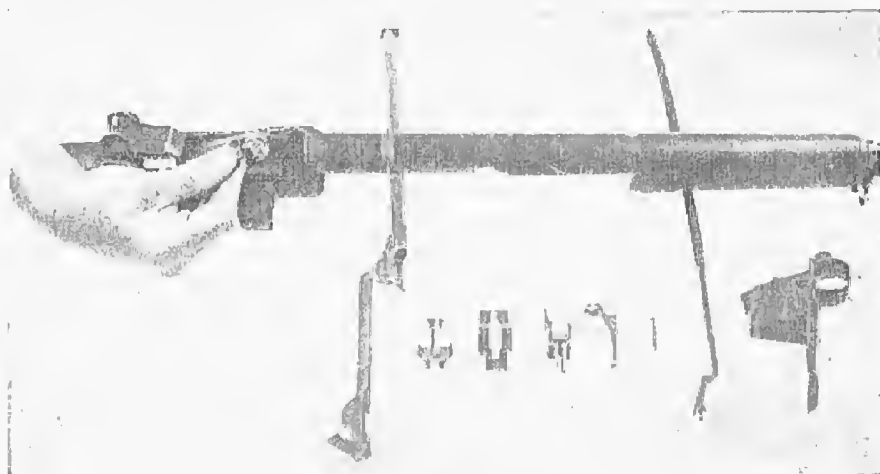

Figure 1. Removing Bolt
(6) (Plate 11, Figure 1.) Grasp bolt by operating lug and while sliding it from rear to front, lift it up and out to the right front with a slight rotary motion.